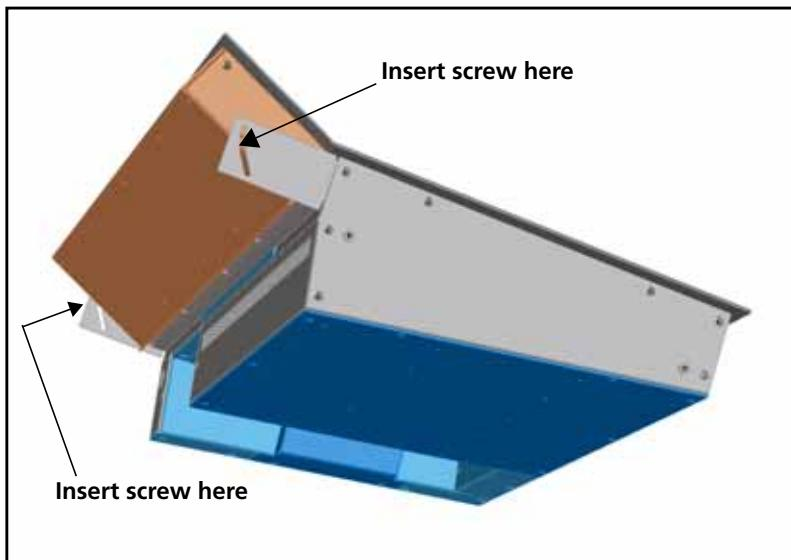

Figure 2-7 Audio Control Panel Attachment
- 6 Attach the audio control panel to the mounting bracket by inserting the provided screws in the curved slots that overlap each side of the audio control panel (see Figure 2-7).